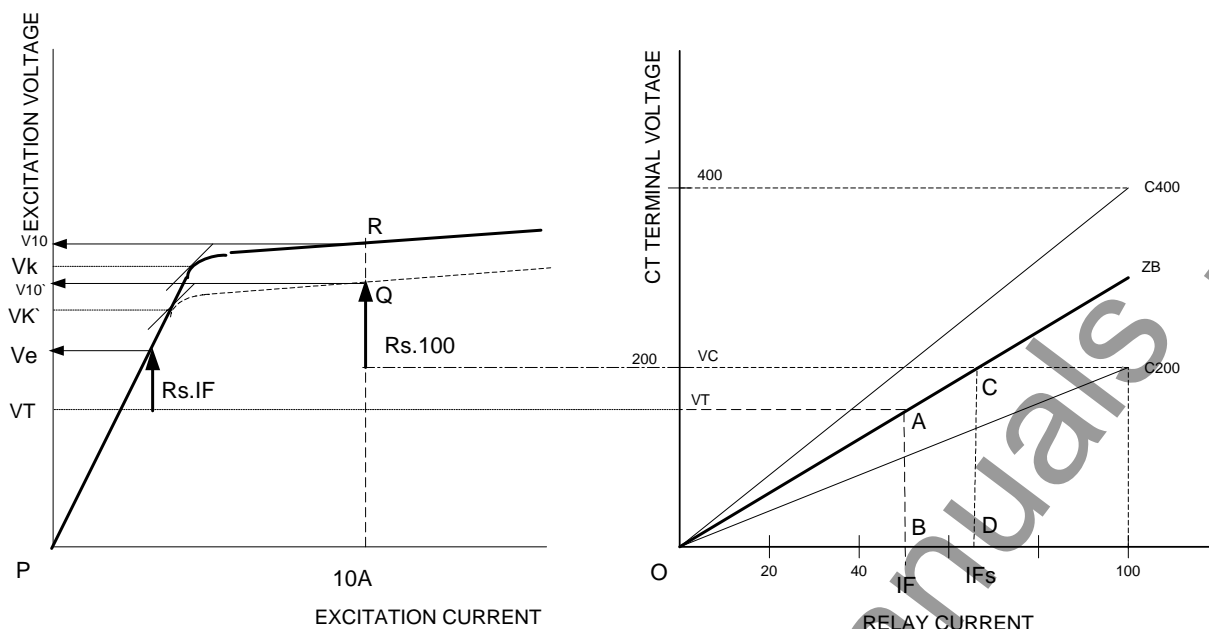

Figure 2. CT Terminal and Excitation Voltages
In Figure 2, the CT terminal voltage increases linearly with the secondary current along the $V=ZB \cdot I$ line where ZB is the total CT burden (leads plus relays for a particular fault and connection). A terminal voltage (V_T) corresponds to the maximum fault current. This voltage is lower than the maximum voltage (V_C) that the C200 CT can support. Saturation will occur (i.e. ratio error will exceed 10%) for secondary currents in excess of I_{Fs} where the corresponding terminal voltage crosses the accuracy class limit V_C (point C in Figure 2). We can define a measure of the degree of saturation with the saturation factor (SF):
The definition of the saturation factor given above appears to be conservative because it assumes the worst case ratio error. However, a closer look is required since it neglects the CT internal resistance. It corresponds to an excitation voltage on a curve passing through point Q in Figure 2 at which the excitation current is 10 amperes (the maximum error allowed by the accuracy class definition). The $R_s \times 100$ term represents the voltage drop across the CT internal resistance. A new SF which takes the internal CT resistance into account can be defined on the excitation curve, as:
Since in all likelihood, the excitation voltage capability of the CT will be higher (passing through point R in Figure 2 for instance), the saturation factor defined on the excitation curve appears to be lower, i.e. - more favorable. A detailed analysis can be performed to compare the two saturation factor definitions.